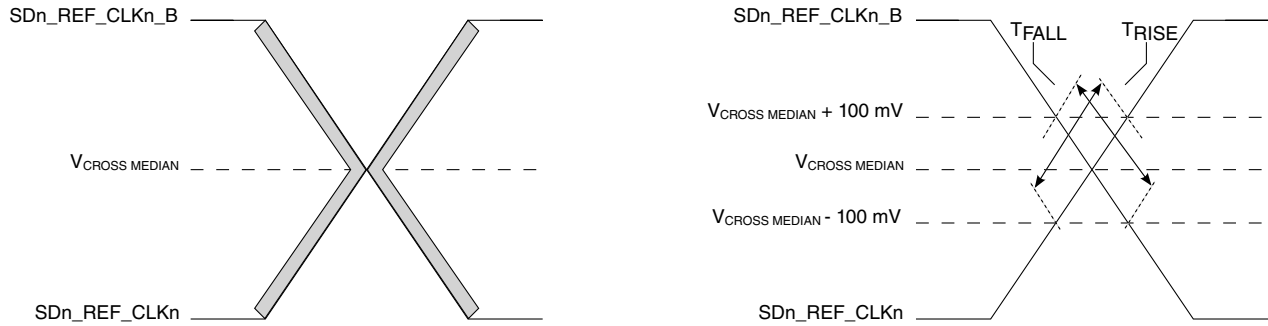

Figure 37. Single-ended measurement points for rise and fall time matching
11. Matching applies to rising edge for SDn_REF_CLKn and falling edge rate for SDn_REF_CLKn_B. It is measured using a 200 mV window centered on the median cross point where SDn_REF_CLKn rising meets SDn_REF_CLKn_B falling. The median cross point is used to calculate the voltage thresholds that the oscilloscope uses for the edge rate calculations. The rise edge rate of SDn_REF_CLKn must be compared to the fall edge rate of SDn_REF_CLKn_B, the maximum allowed difference should not exceed 20% of the slowest edge rate. See Figure 37 .
8. Matching applies to rising edge for SDn_REF_CLKn and falling edge rate for SDn_REF_CLKn_B. It is measured using a 200 mV window centered on the median cross point where SDn_REF_CLKn rising meets SDn_REF_CLKn_B falling. The median cross point is used to calculate the voltage thresholds that the oscilloscope uses for the edge rate calculations. The rise edge rate of SDn_REF_CLKn must be compared to the fall edge rate of SDn_REF_CLKn_B, the maximum allowed difference should not exceed 20% of the slowest edge rate. See Figure 37.